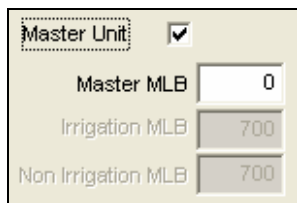

Figure 16.3.11B
7. If this is a Master Unit click on the box titled **Master Unit**. If you do not know leave this box unchecked (Figure 16.3.11B).